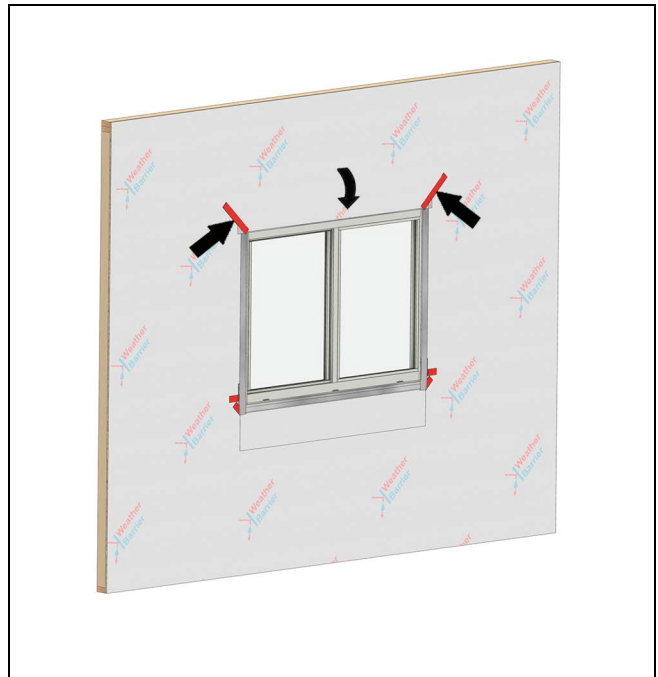

Figure 27
5. Fold the head jamb WRB down over the head jamb flashing. Apply seam seal tape over the diagonal cut in the WRB. Make sure the seam seal tape laps onto the unit or casing. Tape any seams and fasteners directly above the unit with seam seal tape. See Figure 27.